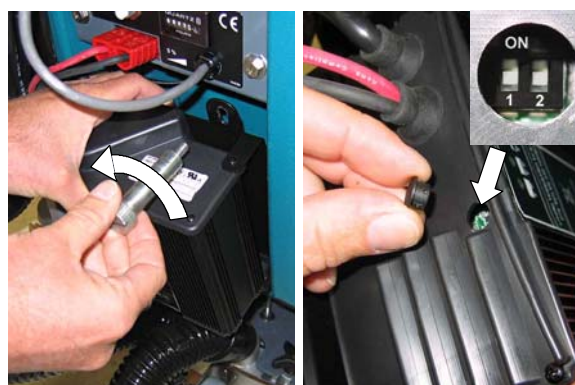

FIG. 29
1. Remove charger from machine (Fig. 29).
2. Remove the plug from the bottom of the charger to access the profile switches (Fig. 29).